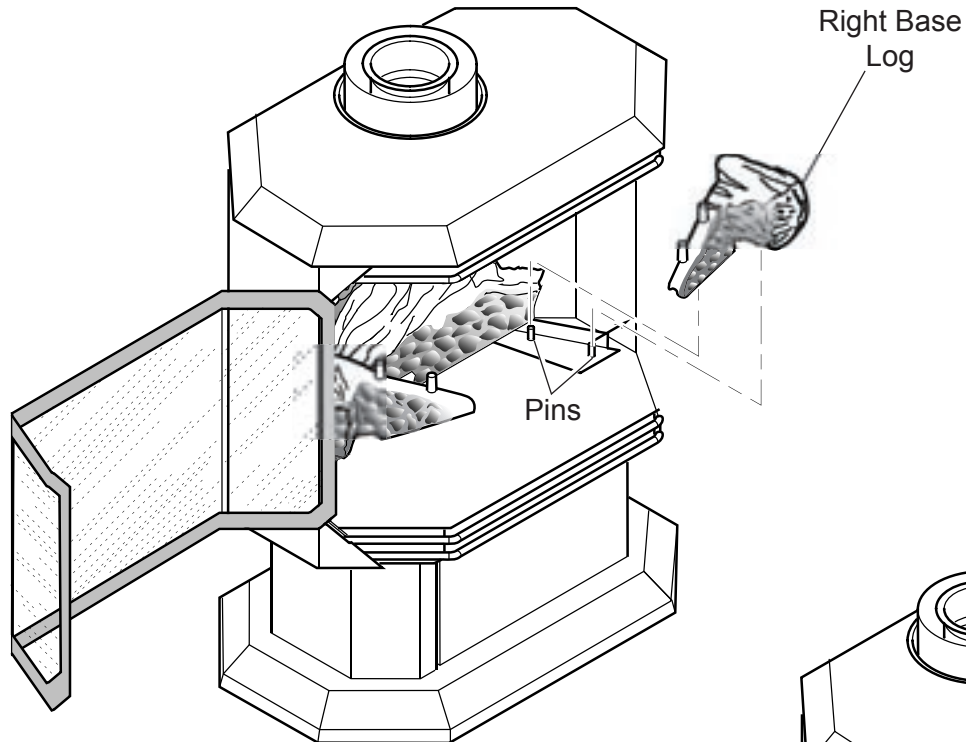

Figure 34 - Installing Right Base Log
5. Place right base log on two pins against right side of firebox. *See Figure 34.*